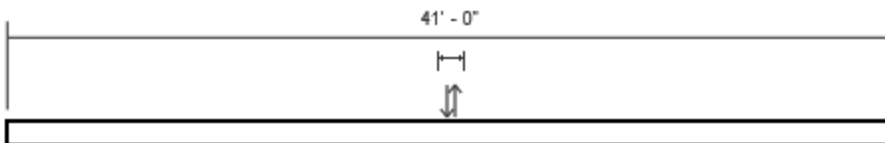

Figure 3-29 The sketched horizontal wall with its controls
- Move the cursor to the right until the temporary dimension shows the value to be more than 40'0". Click at this location as the endpoint of the wall segment and press ESC twice; the wall is created. The created wall shows its temporary dimension, a dimension symbol, and a twin-arrow symbol, as shown in Figure 3-29. Note that, if the dimension is not displayed, you need to click on the created wall to display the dimension.